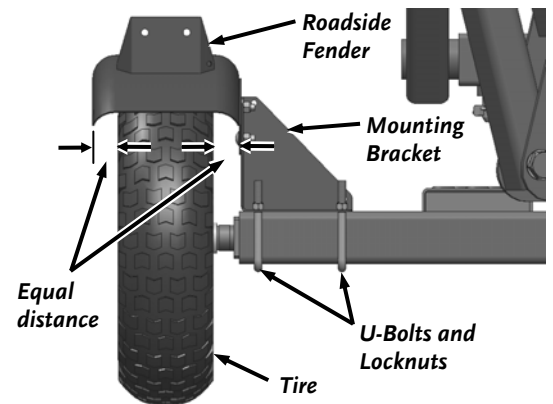

Figure 42
2. Position the Fender and Mounting Bracket onto the roadside of the Backhoe Axle so the Fender protrudes evenly over both sides of the Tire (**Figure 42**) and secure the Mounting Bracket with the two U-bolts and 3/8-16 Locknuts using a 9/16" Wrench. Repeat steps 1 and 2 for the Curbside Fender and Mounting Bracket.